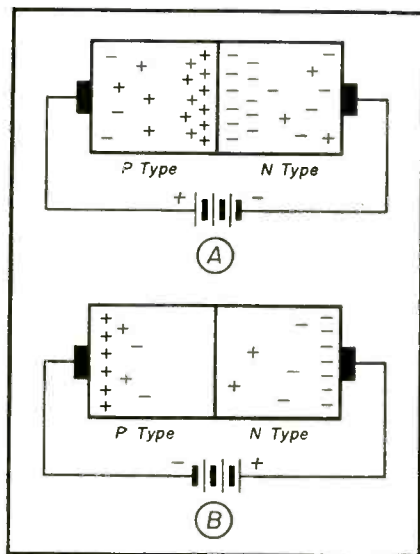

Fig. 1—Effect of bias voltages on P and N type transistors.
Figure 1 shows the action which occurs when a P type and an N type element are brought together, fused and a voltage source is supplied to them. Note that when the (+) side of the battery is connected to the P side of the material and the (-) side to the N side the electrons and the holes move to the center barrier and there is very little current flow. When the battery connections are reversed as in (B), then there is a heavy current flow.